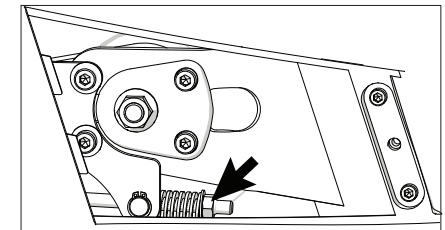

Figure 6
4. Turn the nut to adjust the belt to between 140-150 pounds of tension (Figure 6).